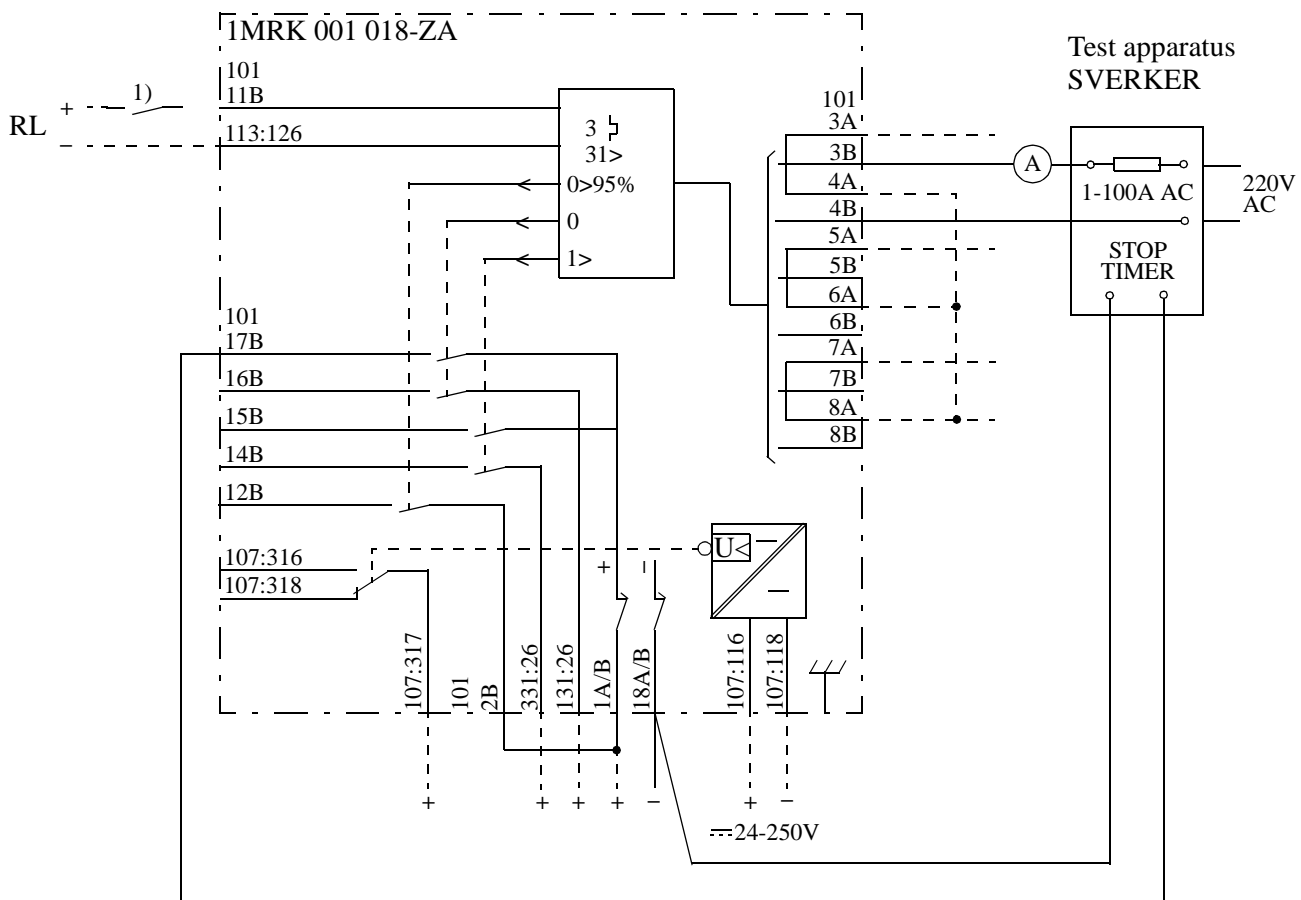

Fig. 16 Connection of test apparatus to RAVK for testing of phase L1. Test handle RTXH 18 inserted.
Fig. 16 shows as an example the connection of test set SVERKER for secondary testing of the three-phase thermal protection RAVK, Connection Diagram 1MRK 001 018-ZAA. When testing, the actual circuit diagram of the protection, which shows the internal connections, should also be available.
1. Insert the test-plug handle into the test switch. Connect the test set and the ammeter acc to Fig.16. Check that auxiliary voltage is connected to terminals 101:1A and 101:18A. Interconnect terminals 1 and 2 on the test handle to get output voltage to test terminal 12 when the 95 % alarm function output relay is activated.